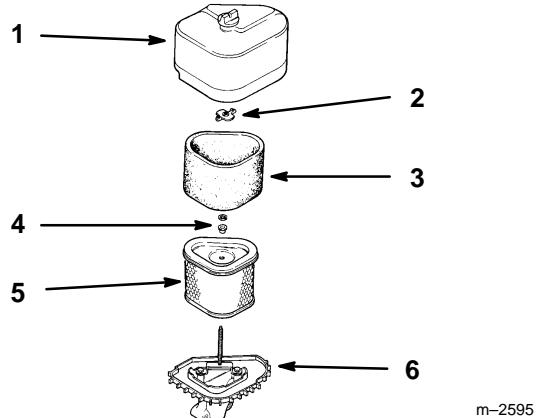

Figure 17
2. Clean around the air cleaner to prevent dirt from getting into the engine and causing damage. Unscrew the cover nut and remove the air cleaner cover (Fig. 17).
3. Remove the air cleaner assembly (Fig. 17).
4. Carefully slide the foam element off the paper element (Fig. 17).
- Carefully slide the foam element onto the paper air cleaner element (Fig. 17).
- Place the air cleaner assembly onto the air cleaner base (Fig. 17).
- Install the air cleaner cover and secure with cover nuts (Fig. 17).